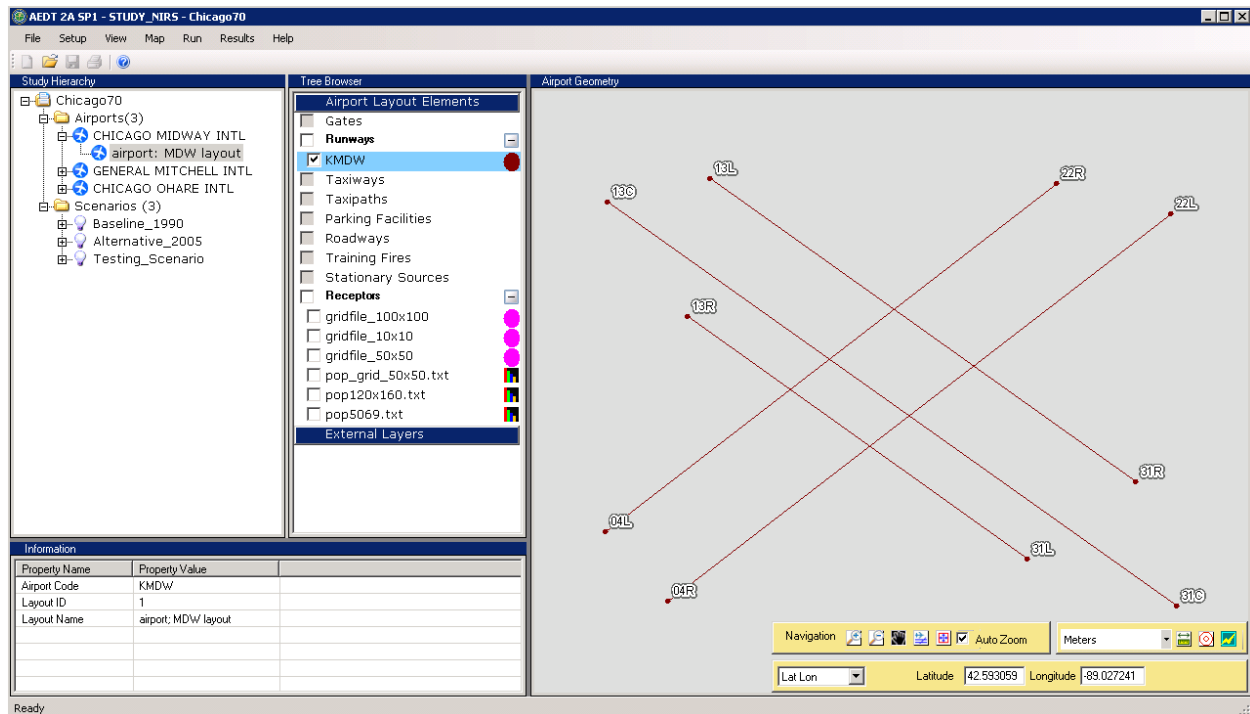

Figure 5-16 AEDT Main Window with Runways Shown in Airport Geometry
3. The airport geometry will update to show the selected airport layout (Figure 5-16).